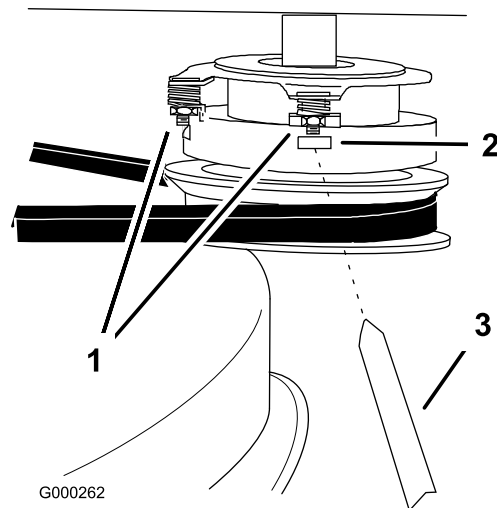

Figure 33
1. To adjust the clutch, tighten or loosen the lock nuts on the flange studs (Figure 33).
2. Check adjustment by inserting a feeler gauge through the slots next to the studs (Figure 33).